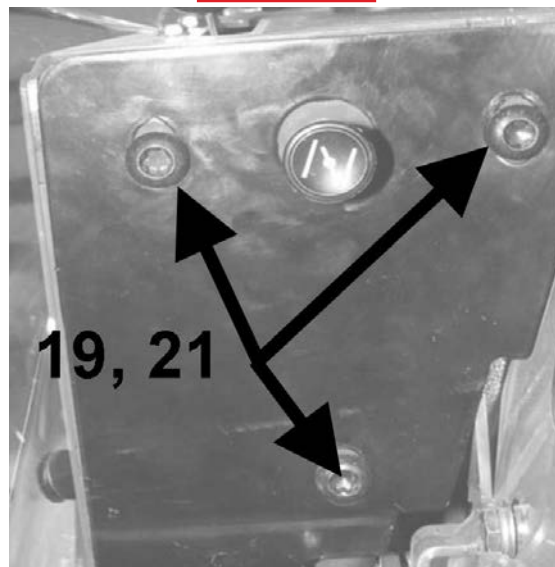

FIGURE 5
11. Secure the LH Cover (**Item 3**) and RH Cover (**Item 4**) to the front console of the machine (**Figure 5 & 6**) using hardware: